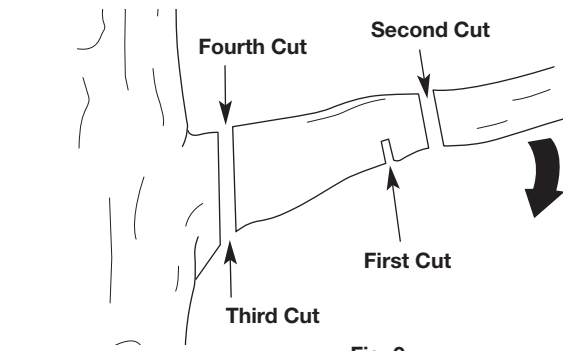

Fig. 9
2. Make the first cut approximately six inches (15 cm) from the tree trunk. Cut upward, from the underside of the limb. Use the top of the guide bar to make this cut. Cut a third of the way through the diameter of the limb (Fig. 9).
3. Make the second cut two to four inches (5 - 10 cm) farther out on the limb. Cut downward, from the top of the limb. Use the bottom of the guide bar to make this cut. Cut completely through the limb (Fig. 9).
4. Make the third cut as close to the tree trunk as possible. Cut upward, from the underside of the limb stub. Use the top of the guide bar to make this cut. Cut a third of the way through the diameter of the limb (Fig. 9).
5. Make the fourth cut directly above the third cut. Cut downward, from the top of the limb stub. Use the bottom of the guide bar to make this cut. Cut completely through the limb stub to meet the third cut (Fig. 9). This will remove the limb stub.